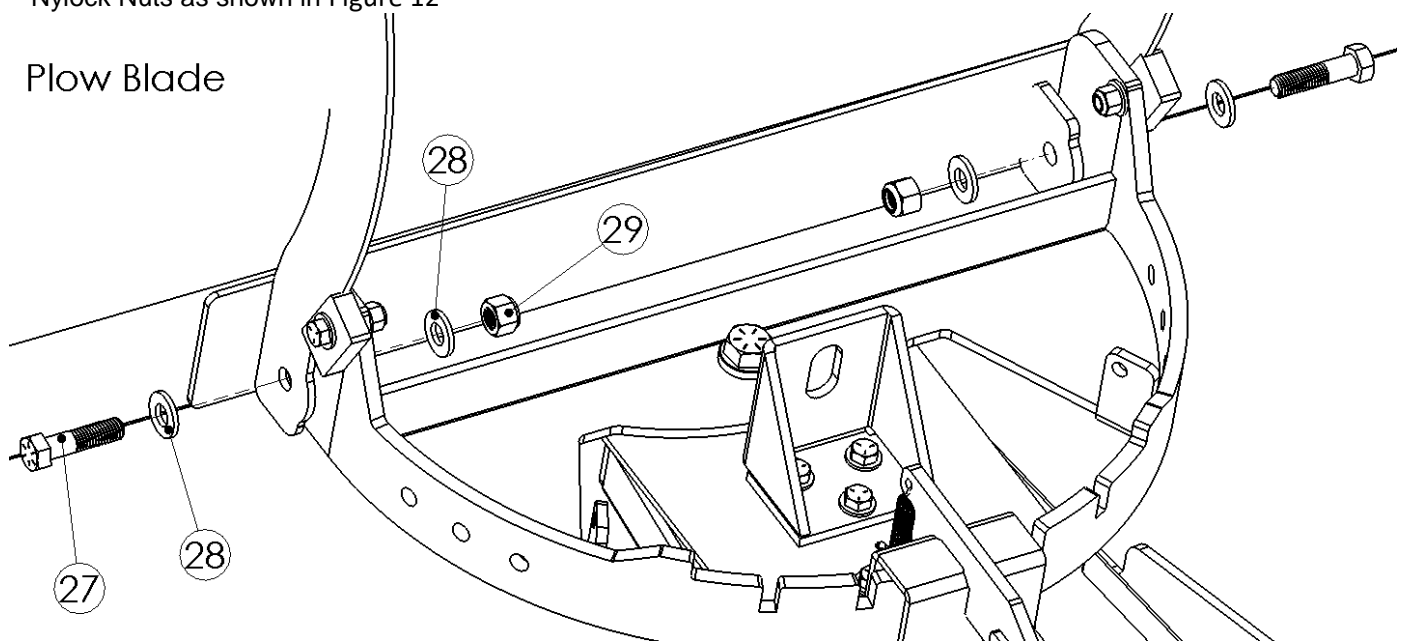

Figure 12
- 8) Attach the completed Pushtube assembly to the Snow Plow using the 1/2" x 2.00" Hex Bolts, 1/2" Flat Washers, and 1/2" Nylock Nuts as shown in Figure 12